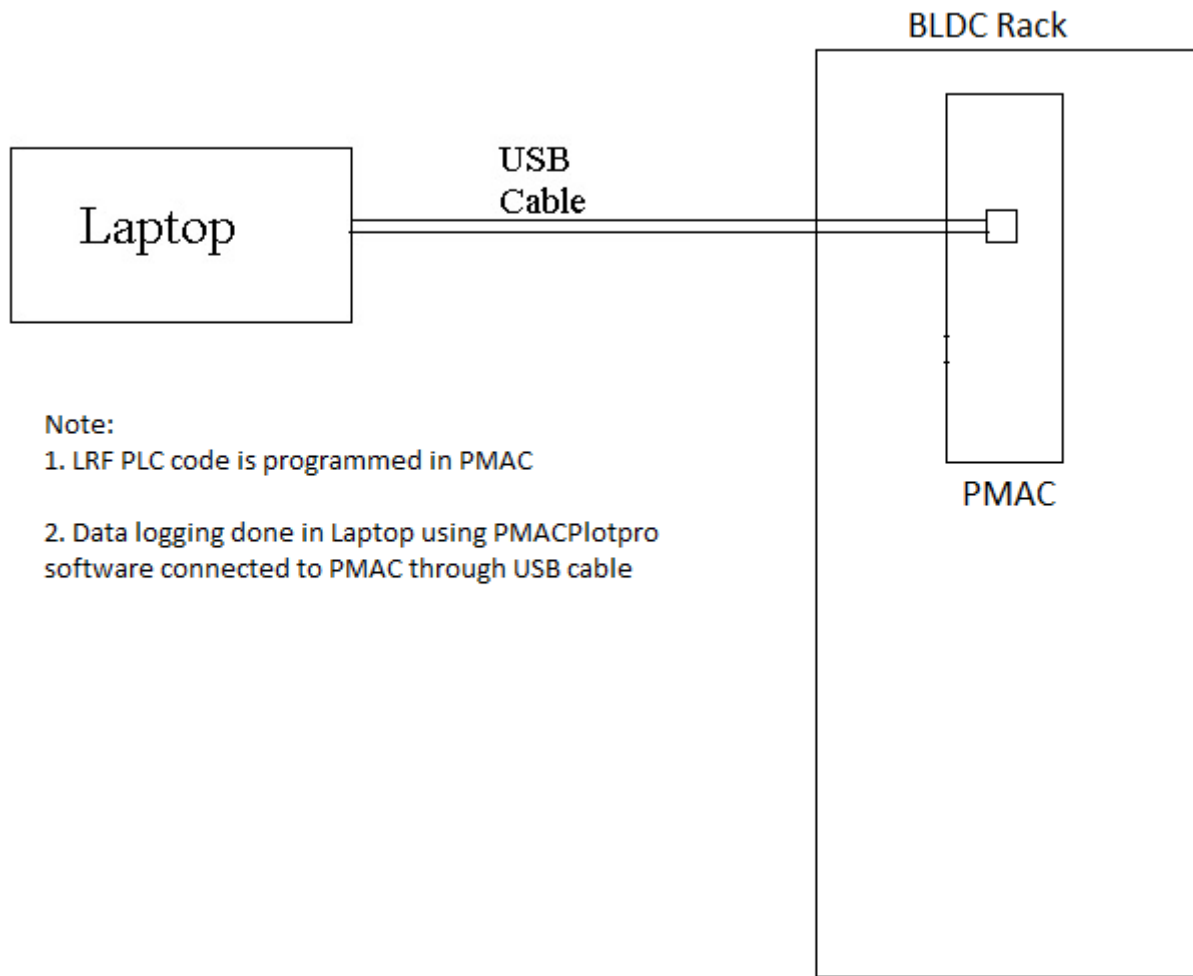

Figure34: Block diagram of LRF test setup for BLDC system
1. Figure34 shows detailed block diagram used for doing LRF test in BLDC system. Put antenna in Manual mode.